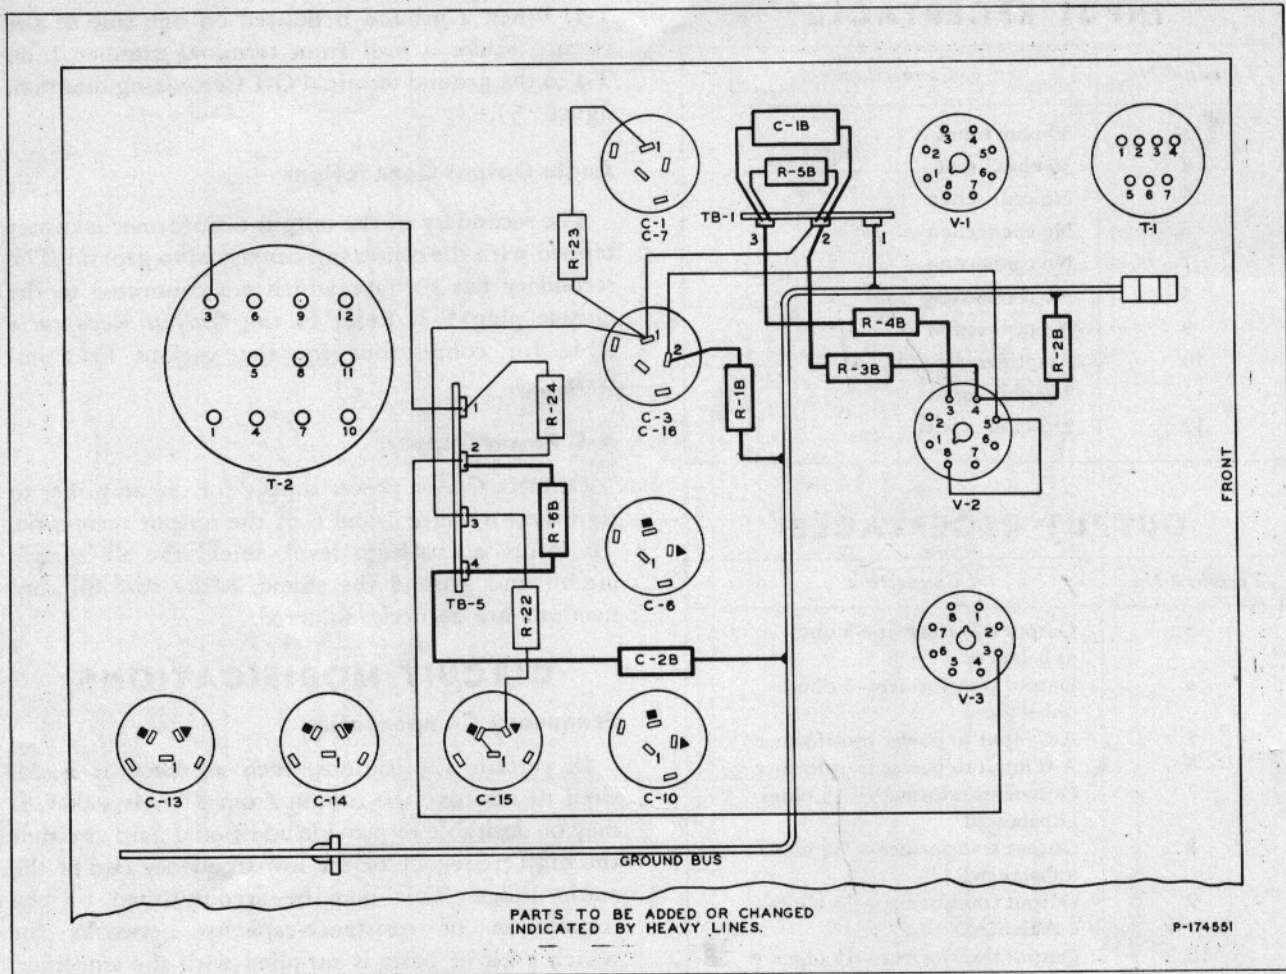

Figure 7—Partial wiring diagram for compensation.
- a. Connect resistor R-6B (1,000 ohms) across terminal 2 and terminal 4 on terminal board TB-5 as shown in figure 7.
To increase the gain in the low-frequency region, refer to figure 7 and make the following changes:
NOTE: Terminal board TB-1 stands vertically on the chassis but is shown in the horizontal position in figure 7 for the sake of clarity. Terminal 3 is at the top, terminal 2 in the middle, and terminal 1 at the bottom.